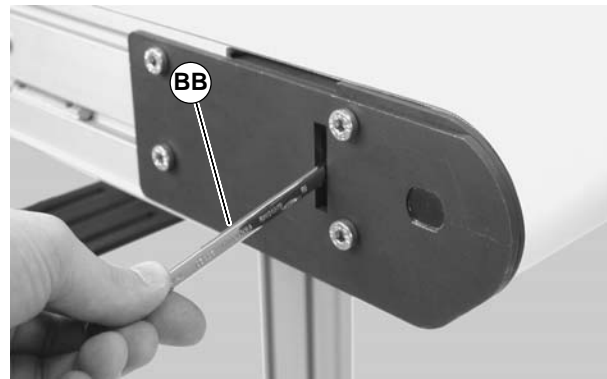
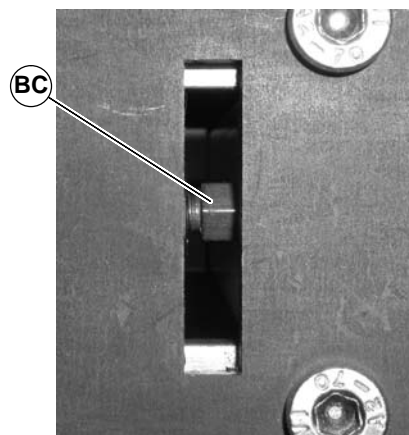

Figure 37
Figure 38
3. With the conveyor running, use wrench (BB of Figure 37) to rotate the tracking screw (BC of Figure 38) in small increments until the belt tracks in the center of the conveyor.